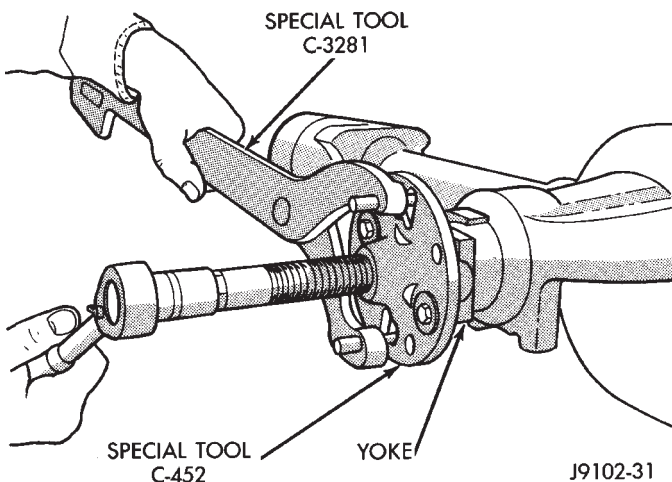

Fig. 16 Pinion Yoke Removal
(8) Using a short piece of pipe and Holder 6958 to hold the pinion yoke, or pinion flange, remove the pinion nut and washer.
(9) Use Remover C-452 and Wrench C-3281 to remove the pinion yoke, or flange, (Fig. 16).
- (1) Raise and support the vehicle.
- (2) Remove wheel and tire assemblies.
- (3) Remove brake rotors and calipers. Refer to Group 5, Brakes, for proper procedures.
(4) Mark the propeller shaft and pinion yoke, or pinion flange, for installation reference.
(5) Remove the propeller shaft from the yoke, or pinion flange.
(6) Rotate the pinion gear three or four times.
(7) Measure the amount of torque necessary to rotate the pinion gear with a (in. lbs.) dial-type torque wrench. Record the torque reading for installation reference.
(8) Remove differential assembly from axle housing.
(9) Using Holder 6958 to hold yoke, or flange, and a short length of 1 in. pipe, remove the pinion nut and washer.
(10) Using Remover C-452 and Wrench C-3281, remove the pinion yoke, or flange, from pinion shaft (Fig. 16).